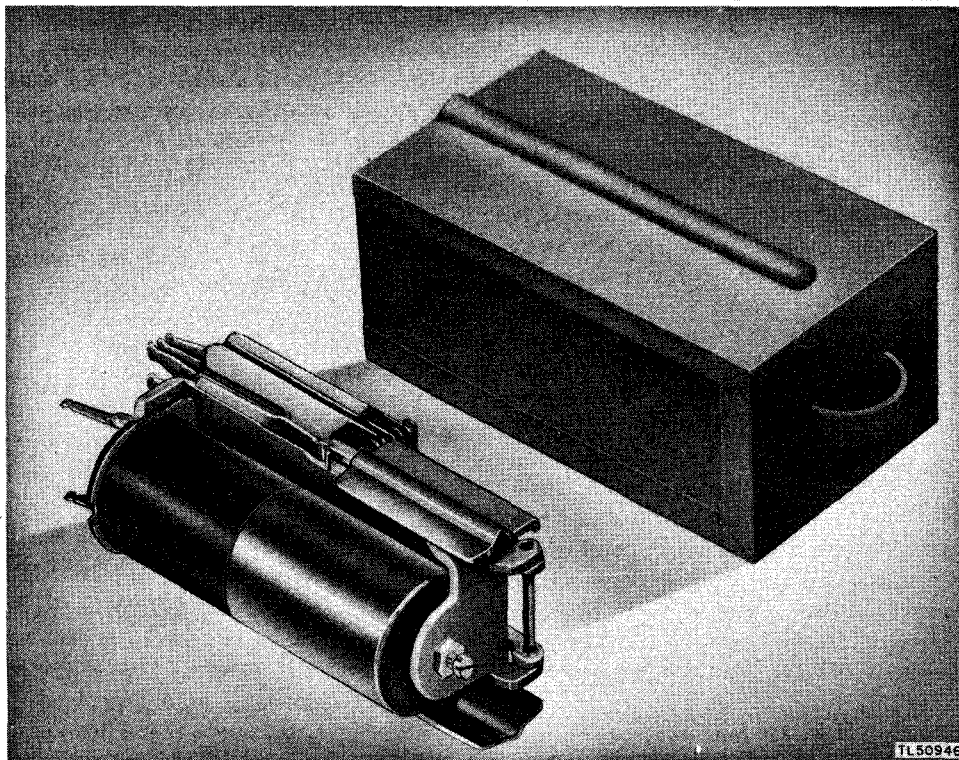

Figure 38. Slow-release relay, cover removed.
**a. General.** The slow-release relay (fig. 38) is adjusted prior to shipment from the factory. Generally, the slow-release relay requires very little maintenance to keep it in perfect operating condition.